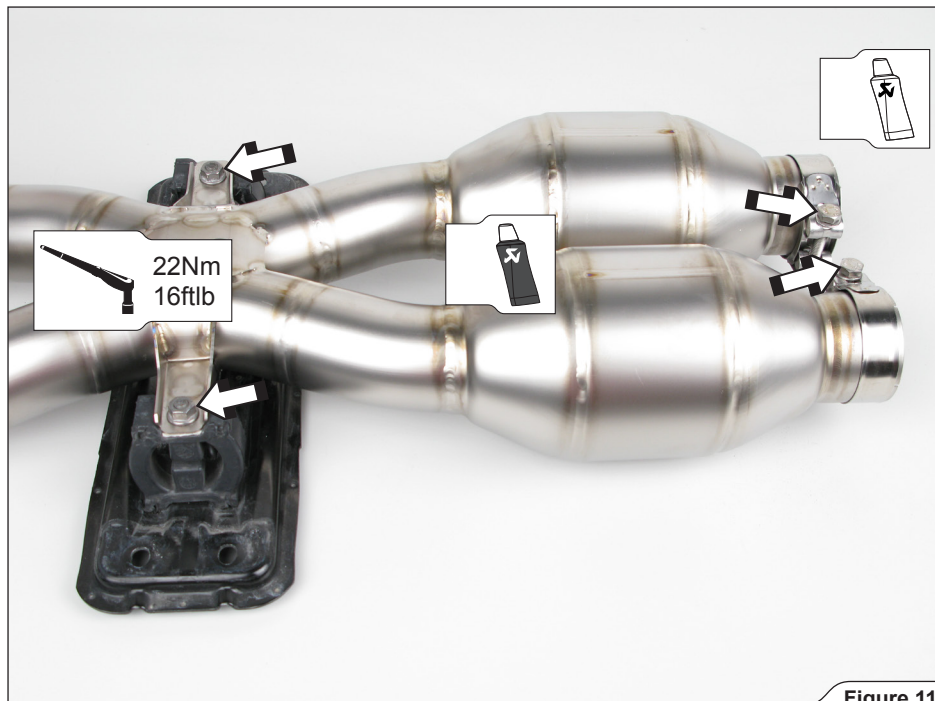

Figure 11
3. Attach the stock bracket and additional metal clamps to Akrapovič middle pipes (**Figure 11**).